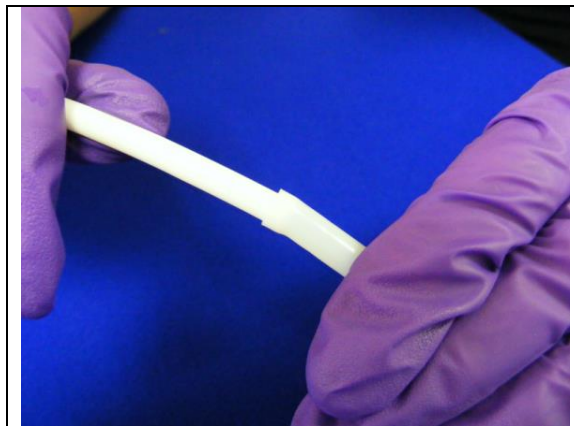

Figure 5: Inserting the PTFE rod.
- 6 Insert the PTFE rod into the other end of the tubing by about 2cm and then remove it again. This widens the tube to aid the final sealing (Figure 5).